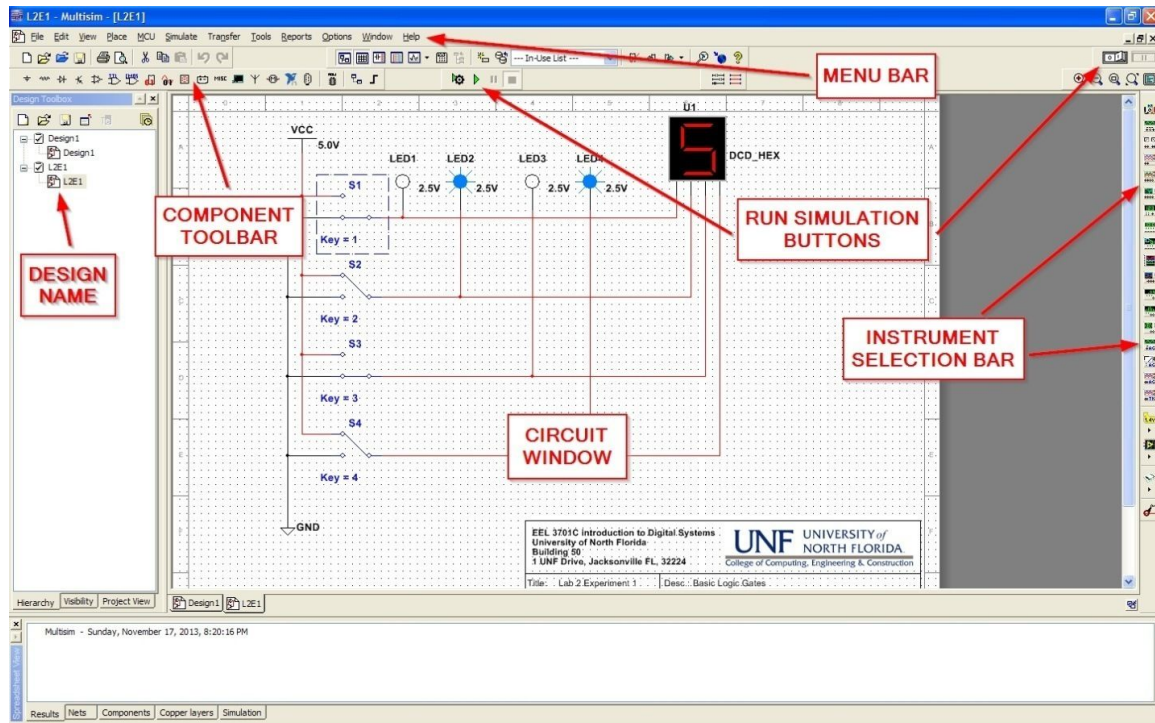

Figure 1. Multisim software environment.
- 1) Open Multisim. The Multisim software environment is shown in Figure 1. Note the different areas and features of the environment.
16) Now you are ready to simulate. Select either the green arrow simulate icon at the top, the toggle switch at the top right, or the Run command from the Simulate Menu. See Figure 1 for more information.
19) Add a DCD_HEX display from the Indicators Group and Display Family. Connect it as shown in Figure 1.